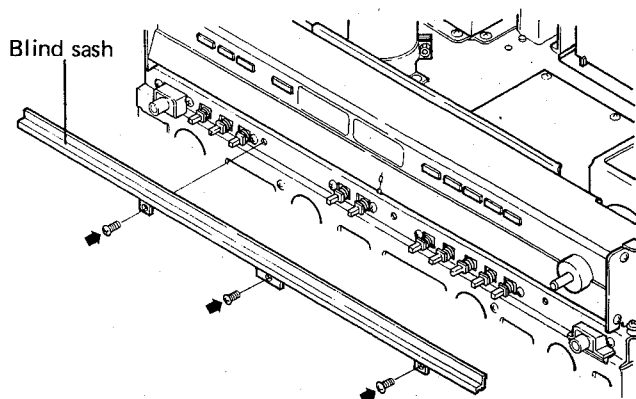

Fig. 21
2. Remove the three screws to detach the blind sash (Fig. 21).